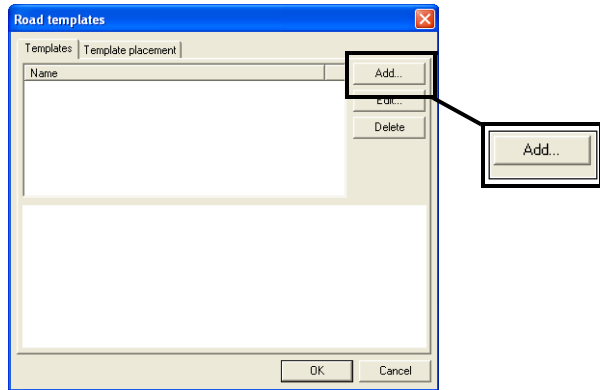

Figure 6-15. Add Feature Line Template
1. Click **Alignment ► Templates** and press **Add** on the *Road templates* dialog box (Figure 6-15).